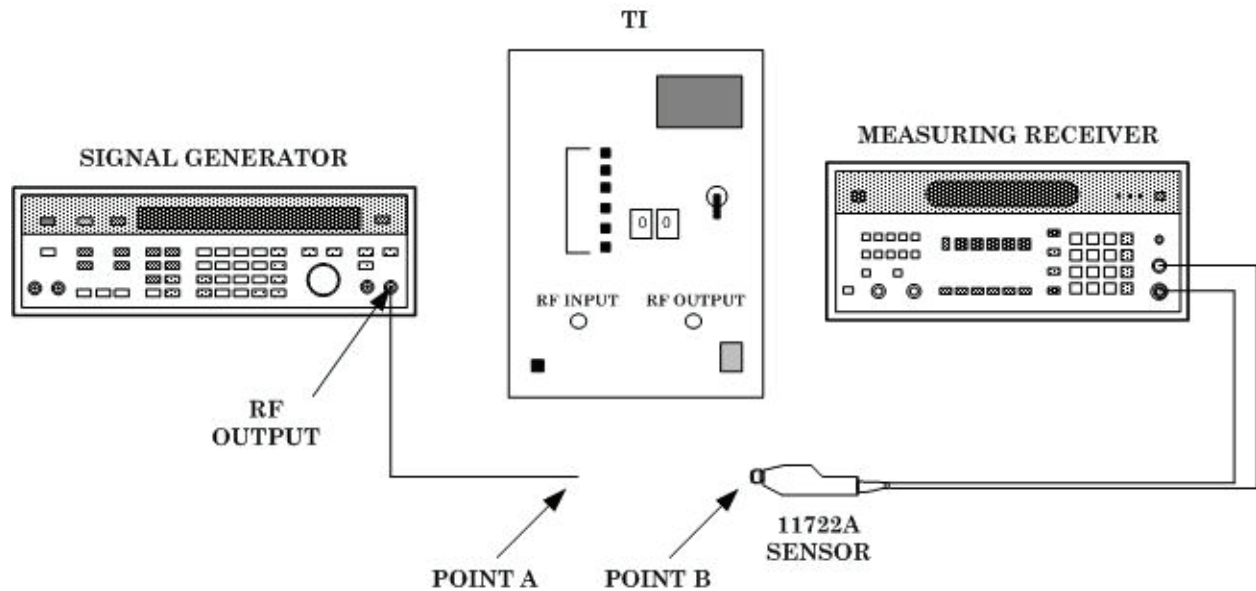

Figure 1. Equipment setup.
- (1) Connect POINT A (fig. 1) to the TI **RF INPUT** and POINT B (fig. 1) to TI **RF OUTPUT**. Set signal generator **RF OUTPUT** on.